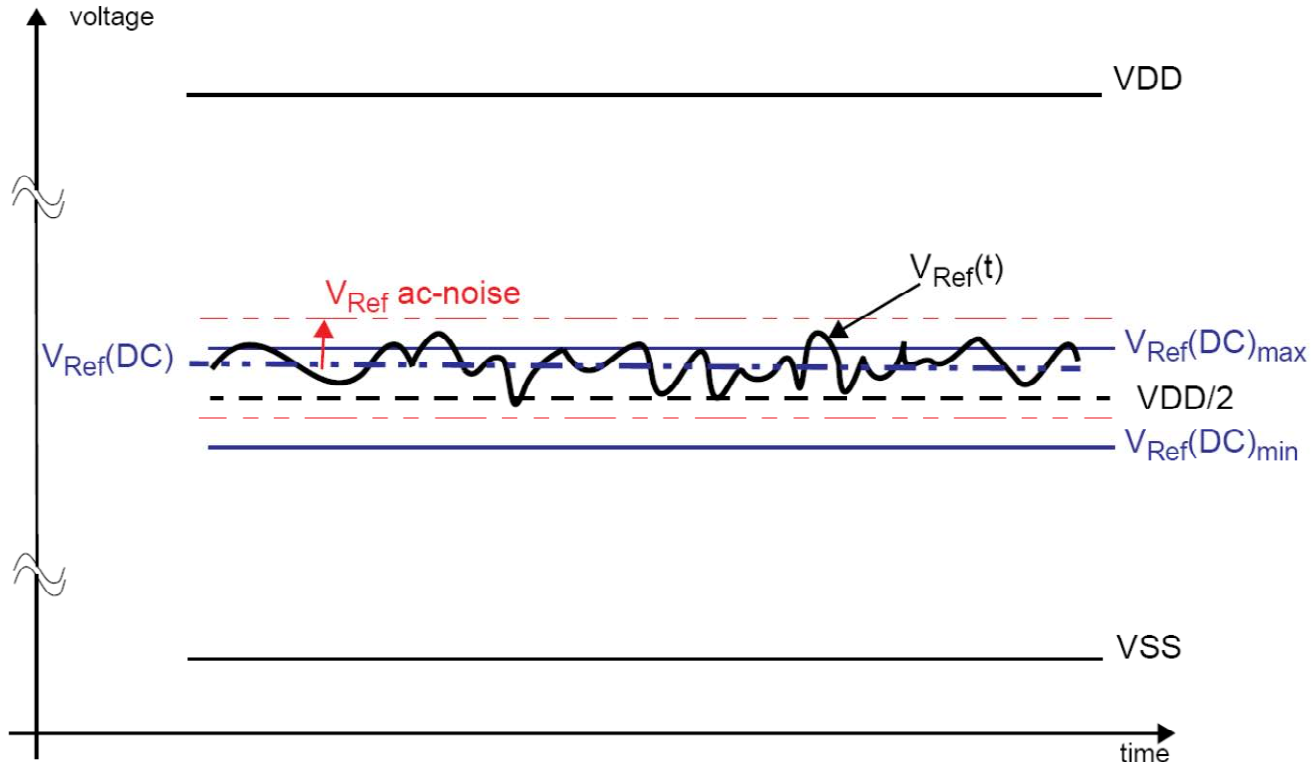

Figure 7.1 — Illustration of VRef(DC) tolerance and VRef ac-noise limits
The dc-tolerance limits and ac-noise limits for the reference voltages VRefCA and VRefDQ are illustrated in Figure 7.1. It shows a valid reference voltage VRef(t) as a function of time. (VRef stands for VRefCA and VRefDQ likewise). VDD stands for VDDCA for VRefCA and VDDQ for VRefDQ. VRef(DC) is the linear average of VRef(t) over a very long period of time (e.g. 1 sec) and is specified as a fraction of the linear average of VDDQ or VDD2 also over a very long period of time (e.g. 1 sec). This average has to meet the min/max requirements in Table 24. Furthermore VRef(t) may temporarily deviate from VRef(DC) by no more than +/- 1% VDD. Vref(t) cannot track noise on VDDQ or VDDCA if this would send Vref outside these specifications
The voltage levels for setup and hold time measurements VIH(AC), VIH(DC), VIL(AC) and VIL(DC) are dependent on VRef. “VRef “ shall be understood as VRef(DC), as defined in Figure 7.1.